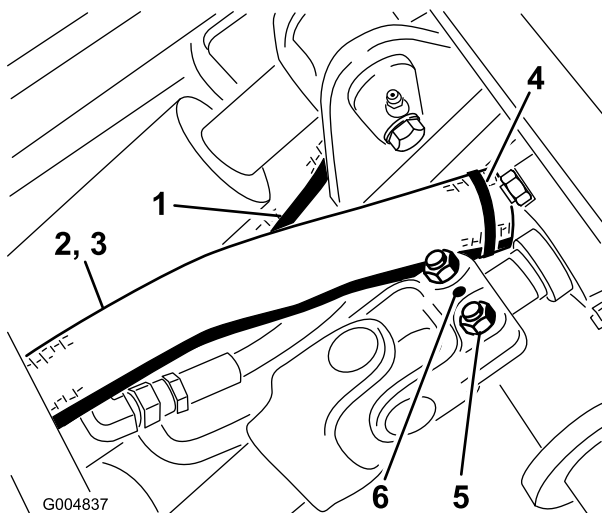

Figure 73
4. Remove the roll pin and loosen the two capscrews securing the drive shaft to the gearbox shaft (Figure 73). Slide the drive shaft off the gearbox shaft.